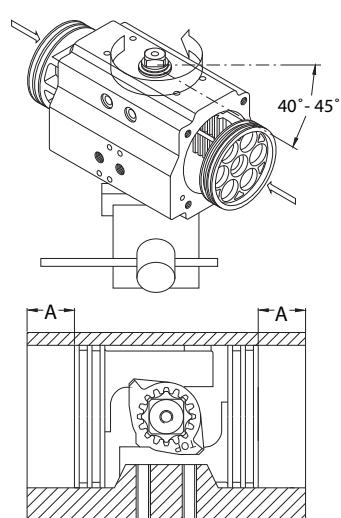

Figure 12
- E. For standard-rotation assembly (clockwise to close) rotate the body (50) 40 – 45° counterclockwise (if viewing the bottom of the actuator), or clockwise (if viewing the top of the actuator) as shown in (**Figure 12**).
- F. Press the two pistons (40) simultaneously into the body (50) until the piston racks are engaged and rotate the body clockwise (if viewing the bottom of the actuator), or counter-clockwise (if viewing the top of the actuator), until the stroke is completed.
- G. To ensure that the piston (40) teeth are evenly engaged, fully compress both pistons (40) inward and measure the distance from the edge of the body to the piston (40) face on each side, shown as dimension "A" in (**Figure 12**). If a different value is obtained on each side, remove the pistons and repeat from step 2d.